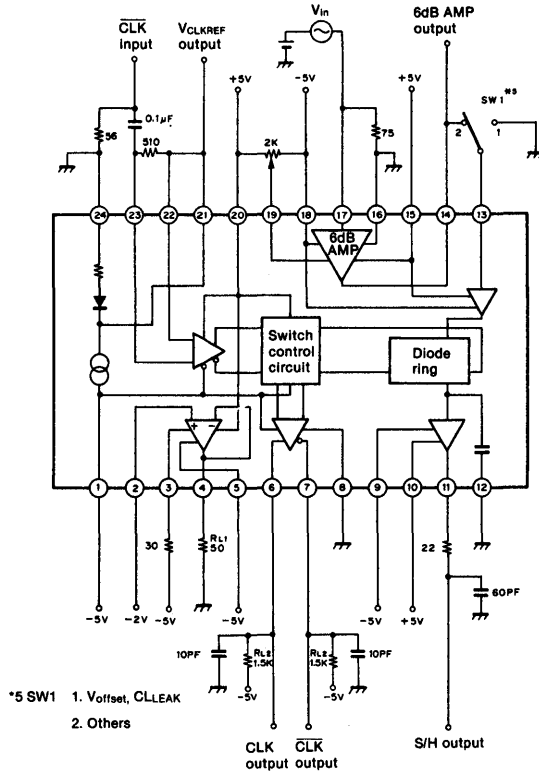

Fig. 3
(RLI = 50Ω. see Fig. 3)
S/H section (see Fig. 3)
**6dB amp section (see Fig. 3)**
**CLK OUT section (see Fig. 3)**
**-2Vref amp section (see Fig. 3)**